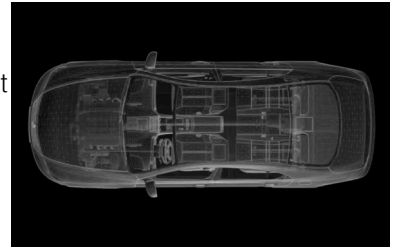

Abbildung 7
- Abbildung 7 https://assets.bose.com/content/dam/Bose_DAM/Web/consumer_electronics/global/content_pages/other_businesses/automotive/images/automotive_home_page_about_bose_automotive.psd/jcr:content/renditions/cq5dam.web.1000.1000.png